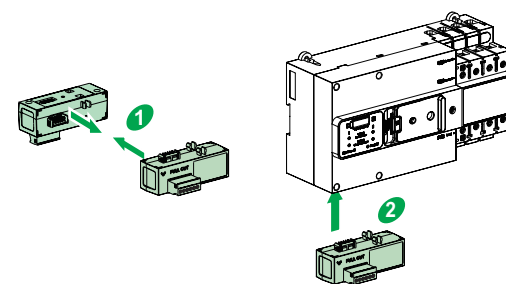

Fig.4 Installation of extension modules
2.2 External extension module is inserted into the controller via slots and 2 × 5P pins to install and fix modules and enable their electrical connection. The external extension modules are matched as shown in Fig.4.